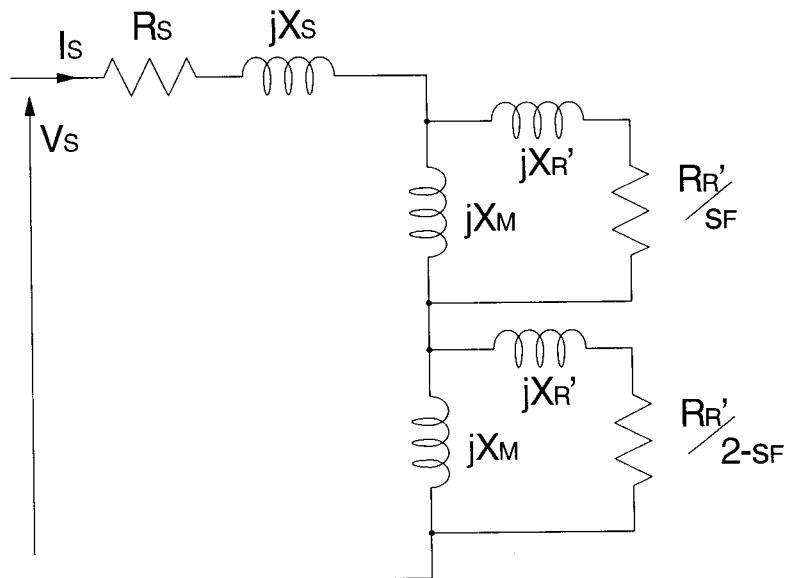

Figure 2
- (c) Figure 2 shows the equivalent circuit of the main winding of a single-phase induction machine in which s_F is the slip with respect to the forward field. The parameters of the machine are: